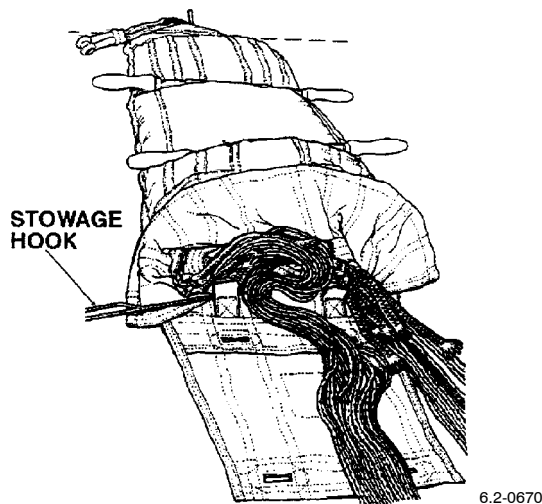

Figure 20. Stowing Suspension Lines in Elastic Loops
i. Pass a stowage hook thru the LH elastic loop from outboard to inboard, form a bight in the LH suspension lines and pull the bight thru the elastic loop from inboard to outboard. Make sure that about 2-in. of lines are outboard of the loop and that the double sewn ends are about 1-in. inboard of the loop (Figure 20 and 21).